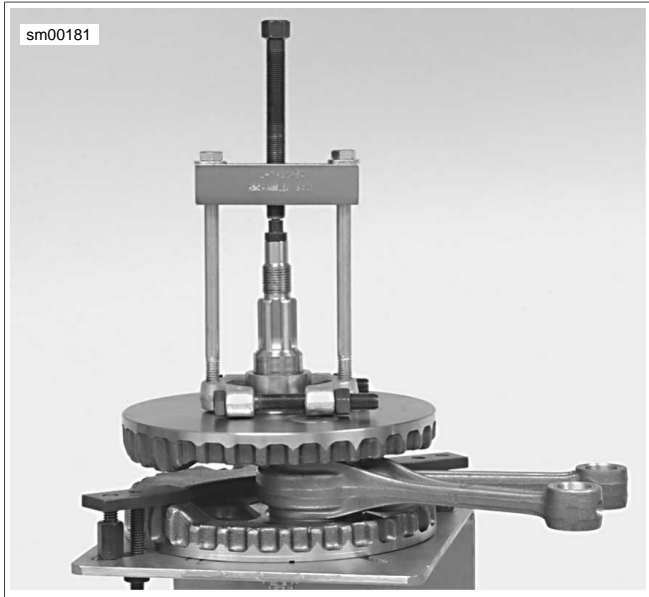

Figure 3-121. Removing Sprocket Shaft Inner Bearing Race
- See Figure 3-121. Place flywheel assembly in FLYWHEEL SUPPORT FIXTURE (Part No. HD-44358). Pull sprocket shaft bearing inner race with WEDGE ATTACHMENT for CLAW PULLER (Part No. HD-95635-46) with BEARING RACE REMOVER/INSTALLER (Part No. HD-34902B) and END CAP (Part No. HD-34902-7).